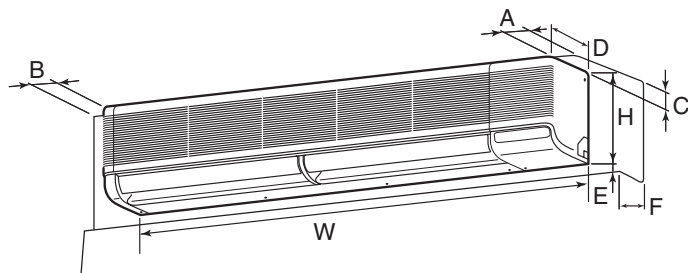

Fig. 2-1
①	Wall-fixing bracket	1	Fix at the back of the unit
②	Tapping screw 4 × 35	12	Set inside the unit
③	Insulation material	2
④	Band	4 (large) + 3 (small)
⑤	Felt tape	3
⑥	Drain socket	1
⑦	Wireless remote controller	1
⑧	Remote controller holder	1
⑨	Alkali batteries	2
⑩	Flare nut	P100		1 (ø19.05)
2.1. Outline dimensions (Indoor unit) (Fig. 2-1)